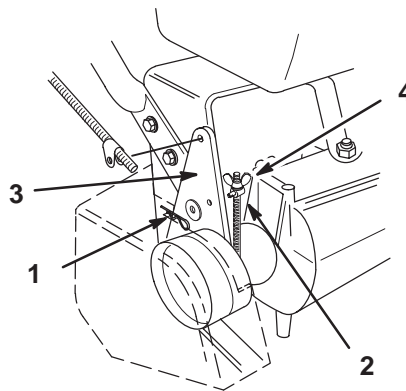

Figure 25
3. Remove the belt cover (Fig. 25) (3) bolts.
4. To adjust the brake remove the cotter pin and washer from the brake lever (Fig. 25).
5. Rotate the trunnion so it smoothly slides into brake lever (Fig. 25). Tighten wing nut.
6. Secure trunnion to brake lever with washer and cotter pin (Fig. 25). Replace the belt cover.